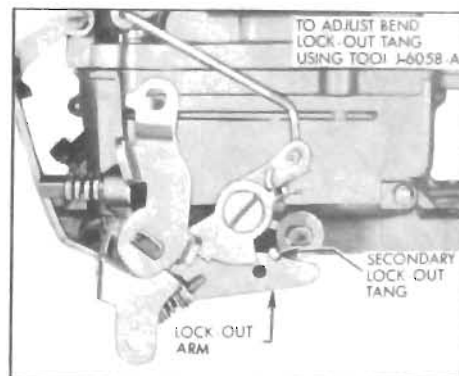

Figure 3-59—Secondary Throttle Lock-Out Adjustment
8. Adjust Secondary Throttle Lock-Out. Open primary throttle valves slightly to clear fast idle cam and manually open and close choke valve. Lock-out tang on secondary throttle should freely engage in notch of lock-out dog while barely missing edge of notch. If necessary to adjust, bend tang on secondary throttle lever using Tool J-6058-A. See Figure 3-59.